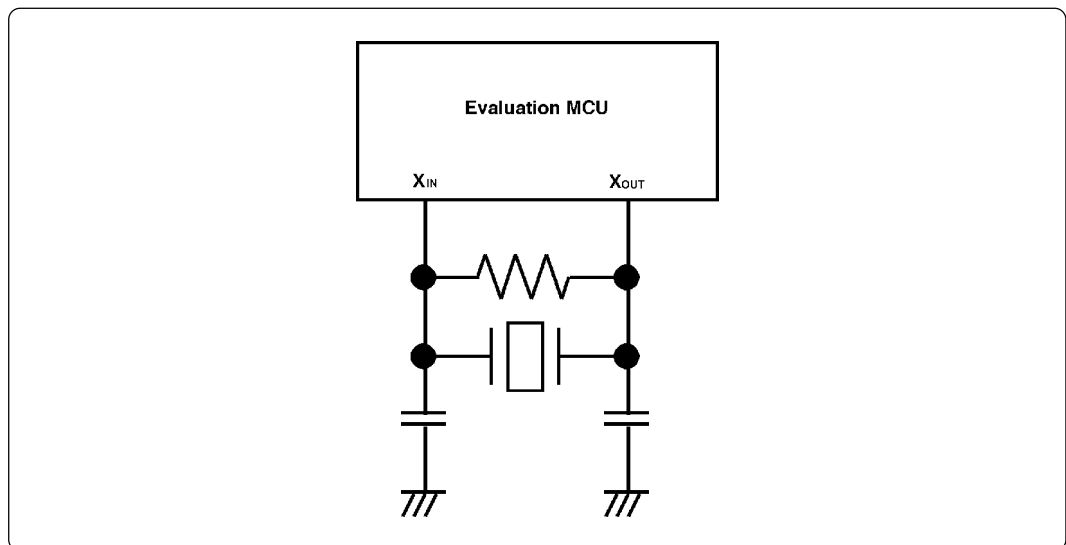

Figure 4.6 Circuit for no oscillation in this pod
- b. Make note of the fact that in the oscillation circuit shown in Figure 4.6 where a resonator is connected between the X_{in} (X_{cin}) and X_{out} (X_{cout}) pins, oscillation does not occur because a flexible cable, buffer IC and other devices are used between the evaluation MCU and the target system.